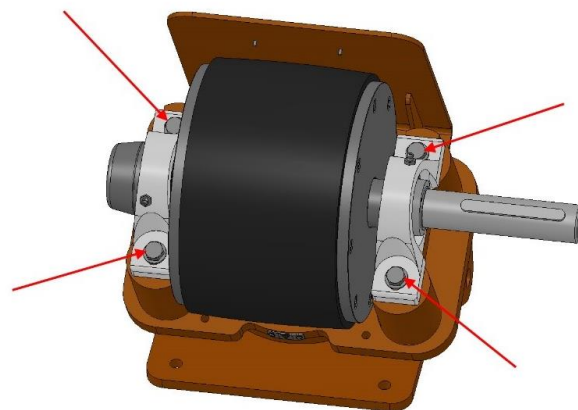

Figure 10: The four bolts M12
1. Remove the M20 bolt and then remove the electric motor with gearbox (Figure 10).